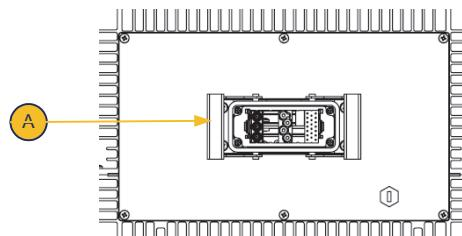

Figure 5-16: Waterproof Box - Single-Connector
Step 3. Connect the lamp cable lead to the Lamp connection port (**A** in **Figure 5-16** above) (the connector is keyed so it only matches in one position) and pull the lock latch closed to secure the connection.